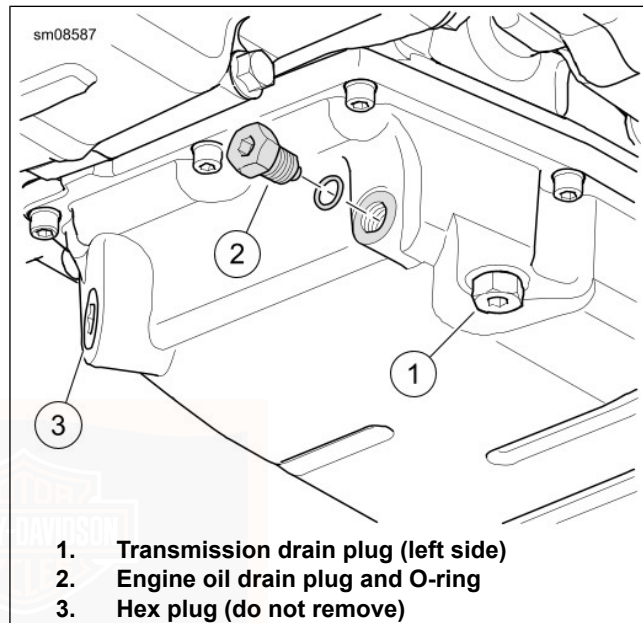

Figure 59. Oil Pan
3. See Figure 59. Remove the oil drain plug (2) and O-ring. Allow oil to drain completely.